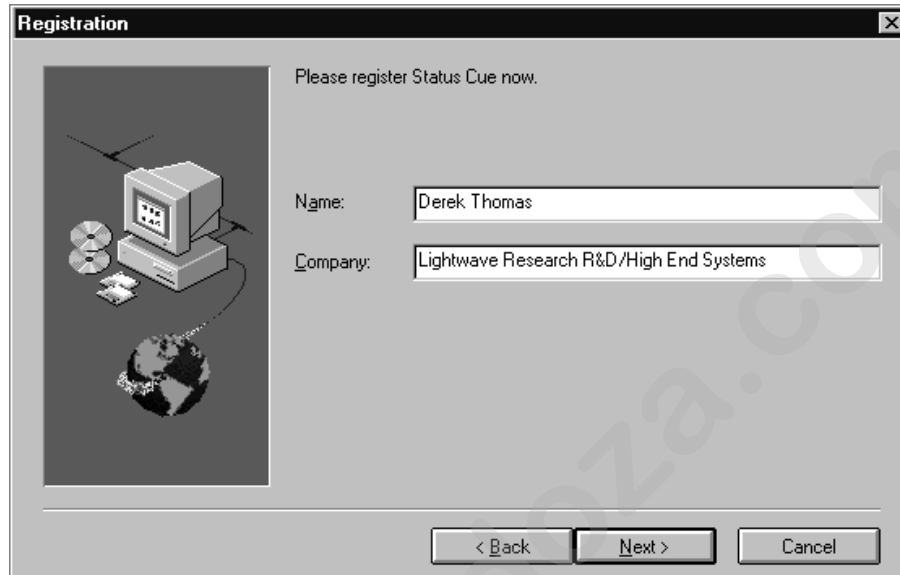

Figure 1.28. Status Cue Registration
7. Fill in the appropriate registration information and click the **Next** button to continue. Refer to Figure 1.28.